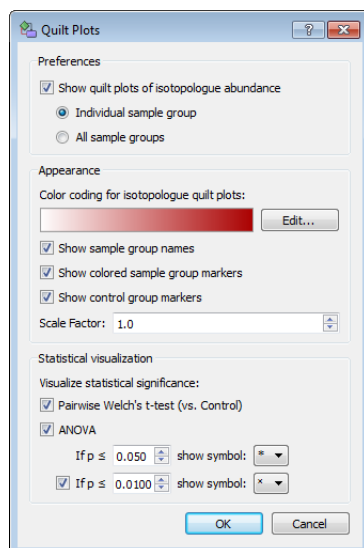

Figure 117 Quilt Plots dialog box
Visualize the isotopologue abundances, by individual or all sample groups, in quilt plots next to the metabolite nodes. Indications of statistical significance of the isotopologue abundances among the groups can be enabled and adjusted by either a pairwise Welch's t-test versus control, or a one-way ANOVA of each group against every other group. Quilt plot parameters are viewed in the **Quilt Plots** dialog box (Figure 117 on page 105). See "Edit Color Coding and Color" on page 106 for editing the colors.
- Mark **Show quilt plots of isotopologue abundances** in the **Quilt Plots** dialog box (Figure 117 on page 105).